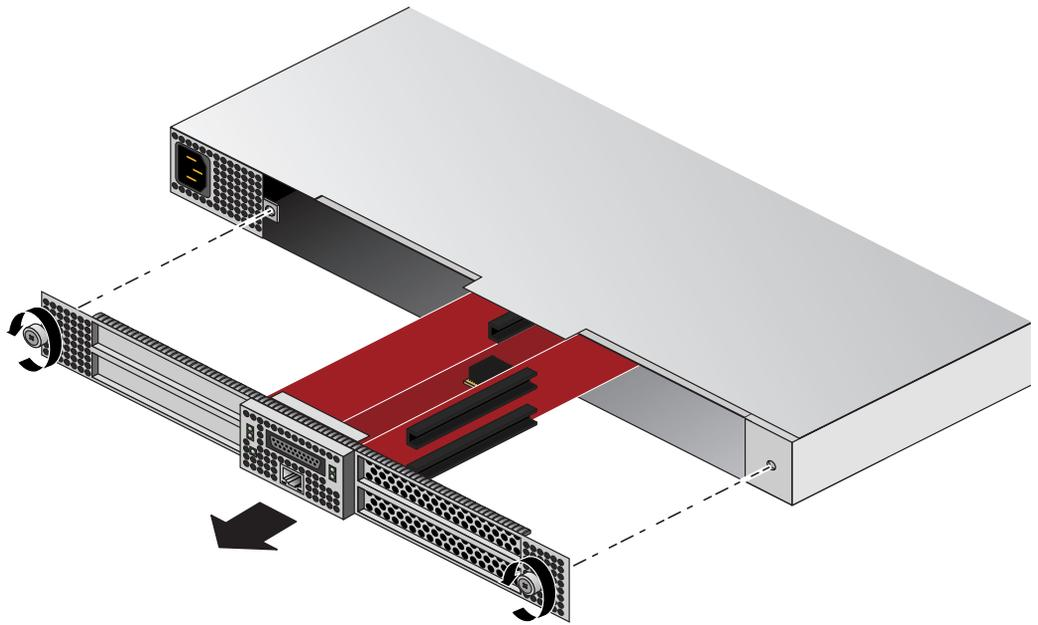

Figure 5-3 Card Slot Locations in “PCIe Carriage”
3. Pull the T-shaped board “carriage” out of the chassis until the slots are clear of the unit, see Figure 5-3 on page 61 for an example.